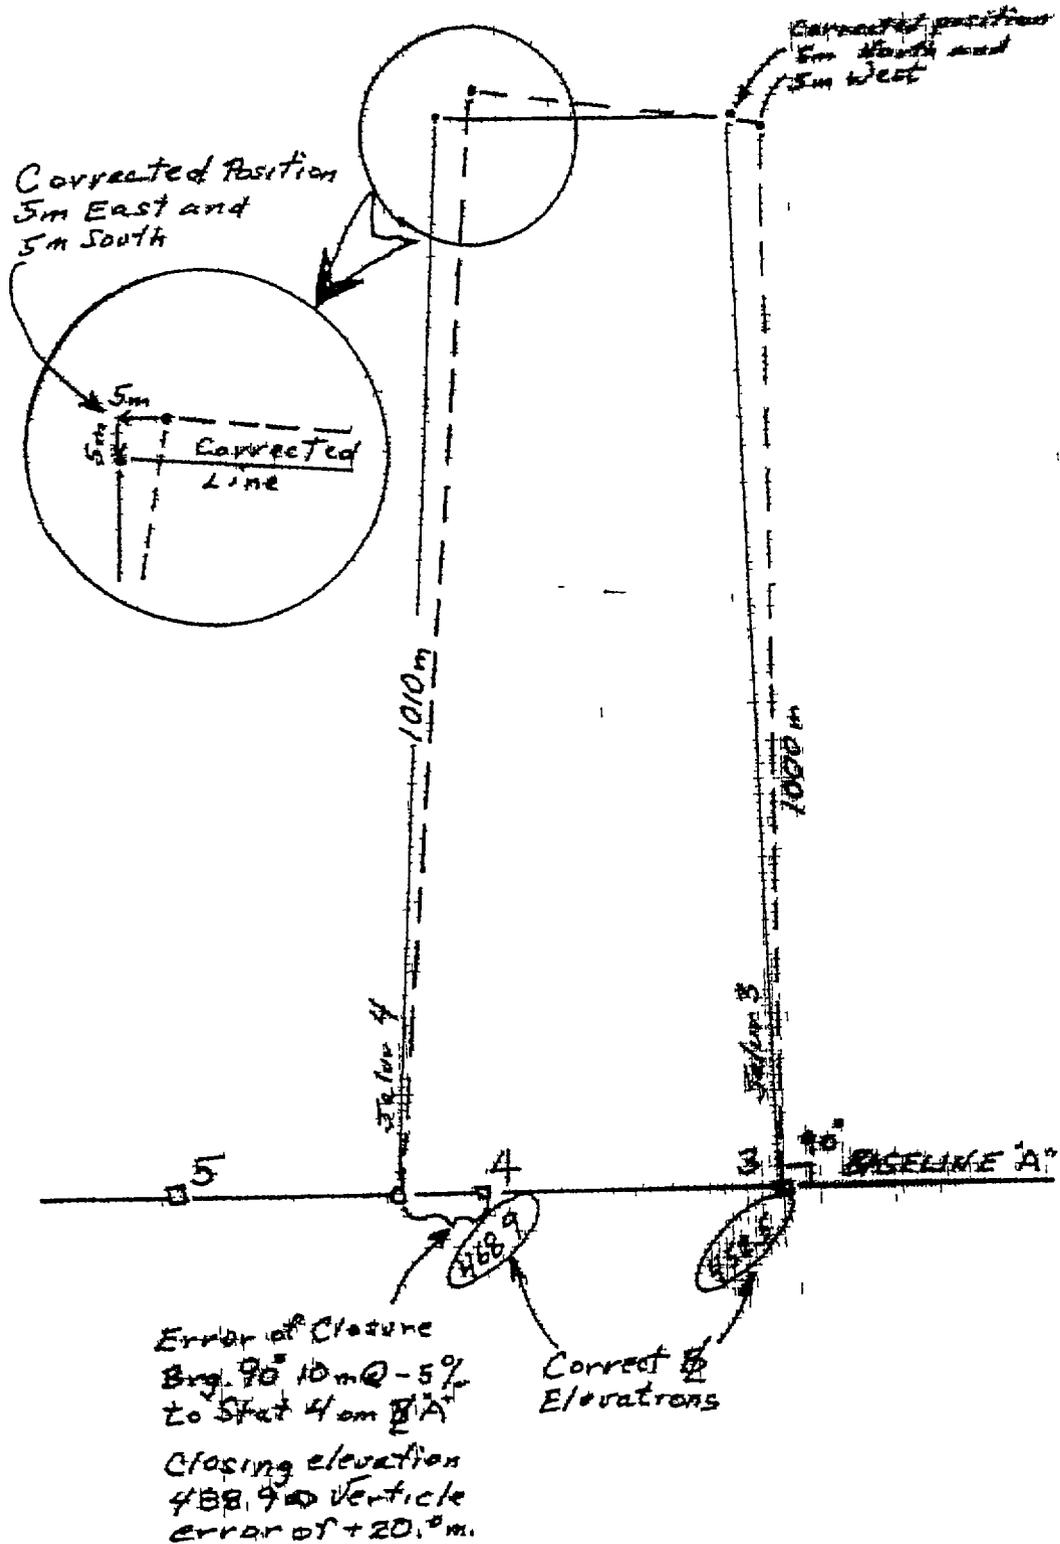

Figure 13 Correcting horizontal errors of closure
- 4) Adjust for horizontal error of closure. The example in Figure 13 shows a closing error of +10m in the north/south direction and +10m in the east/west direction. Assume that this error is equally divided between the two strips.
- Draw in an adjusted strip position from the actual location of the strips on the baseline to the adjusted end locations (see Figure 13)
- 7) Adjust for vertical error of closure In Figure 13, the correct elevation at station 2 is 468.9m. The closing elevation for the survey of jalur 5 and 6 is 488.9m, therefore, the vertical error of closure is +20.0m